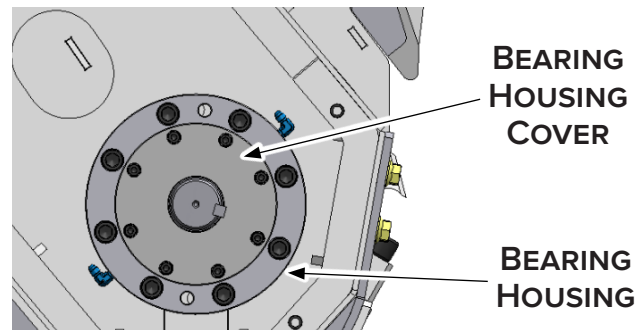

Figure 20
- Remove the bearing housing cover plate shaft seal. See Figure 20.